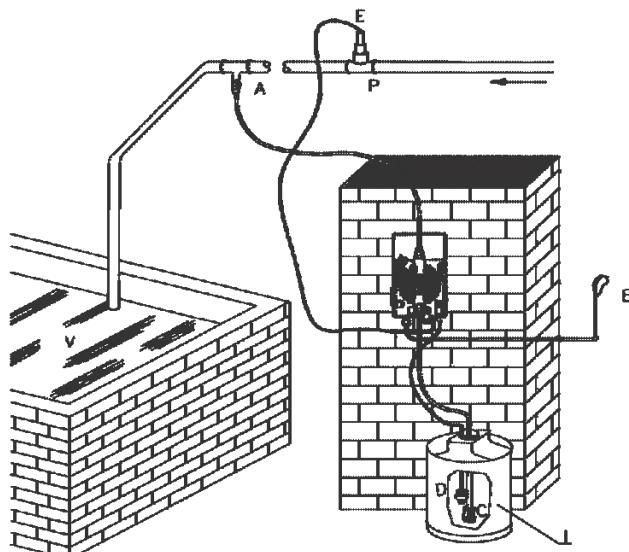

Fig. 12
6.2 - SCHÉMA D'INSTALLATION TYPE (Fig. 12)